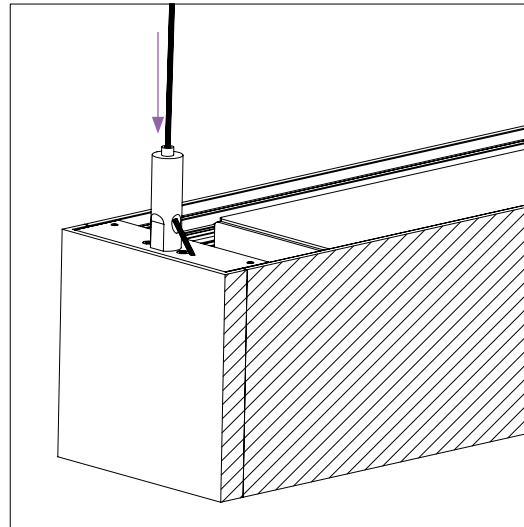

fig. 12
2. Adjust the height of the fixture by compressing the spring lock mechanism at the top of the gripper (see fig. 12).